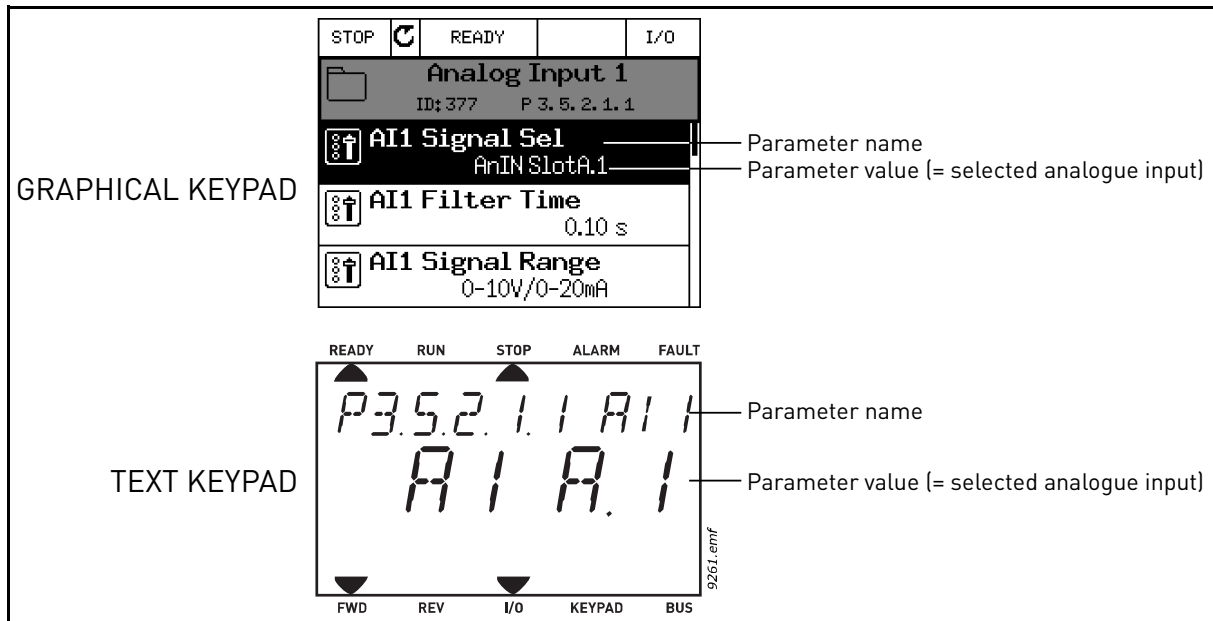

Figure 62.
2. You are now in the Edit mode as the slot value DigIN SlotA. is blinking and underlined. (Should you have more digital inputs available in your I/O, for example, through inserted option boards in slots C , D or E , they can also be selected here.). See Figure 62.	2. You are now in the Edit mode as the letter d is blinking. (Should you have more digital inputs available in your I/O, for example, through inserted option boards in slots C , D or E , they can also be selected here.). See Figure 62.